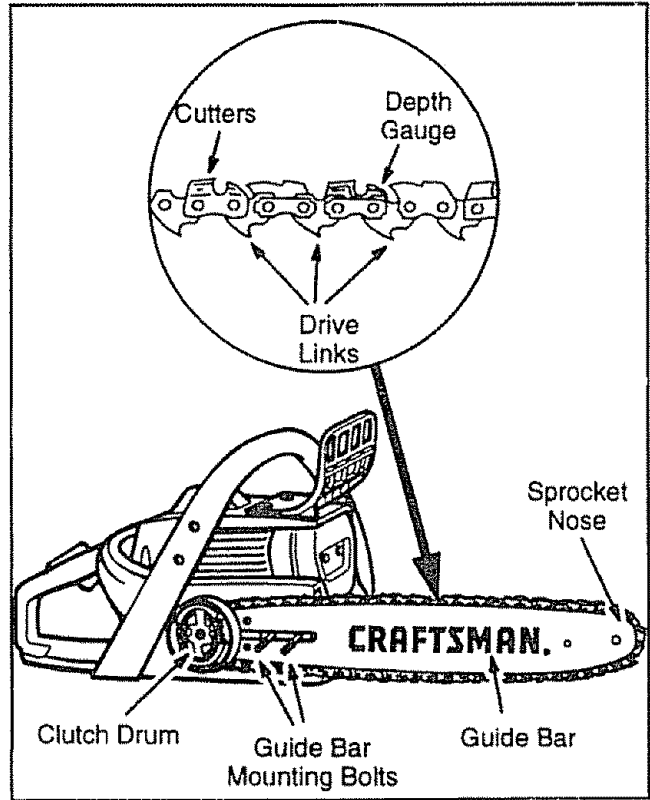

Figure 9
- Carefully remove chain from bag. Position chain with the drive links as shown Fig.9.
- Fit chain drive links into top of guide bar Fig. 9.